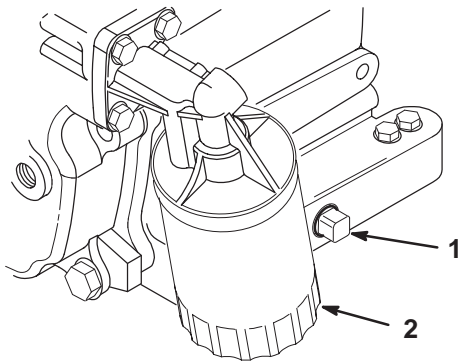

Figure 27
5. Remove the drain plug (Fig. 27) and let the oil flow into a drain pan. When the oil stops, install the drain plug.
2. Remove the existing oil filter (Fig. 27). Apply a light coat of clean oil to the new filter gasket.